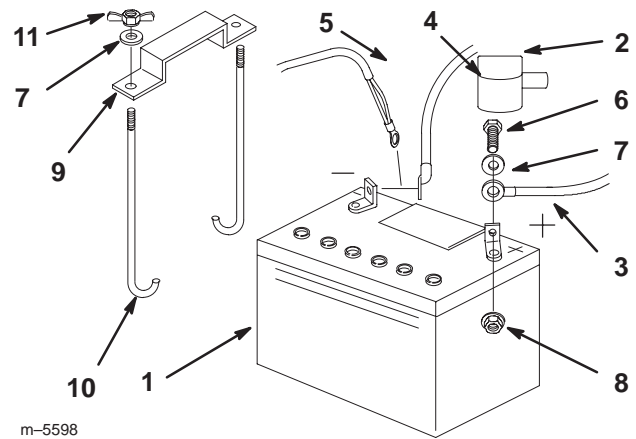

Figure 66
- Position battery in tray with terminal posts toward the engine (Fig. 66).
- Secure the cables with 2 bolts (1/4 x 3/4 inch), 2 washers (1/4 inch), and 2 locknuts (1/4 inch) (Fig. 66).
- Secure the battery with J-bolts, hold down clamp and 2 washers (1/4 inch), and 2 wing nuts (1/4 inch) (Fig. 66).
4. First disconnect the negative battery cable and ground wire from the negative (-) battery terminal (Fig. 66).
5. Slide the red terminal boot off the positive (red) battery terminal. Then remove the positive (red) battery cable (Fig. 66).
6. Remove both wing nuts (1/4 inch) securing the battery clamp (Fig. 66).